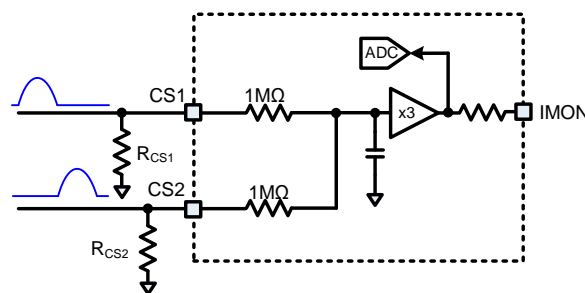

Figure 7: IMON Pin
The ADC samples the IMON voltage (see Figure 7). Then the digital part calculates $I_{OUT_CAL_GAIN}$ (38h) and $I_{OUT_CAL_OFFSET}$ (39h), as well as $READ_I_{OUT}$ (8Ch) from the ADC result (9Bh), which is compared to the output current limit (register 6Ah) to determine whether an over-current (OC) condition has occurred.